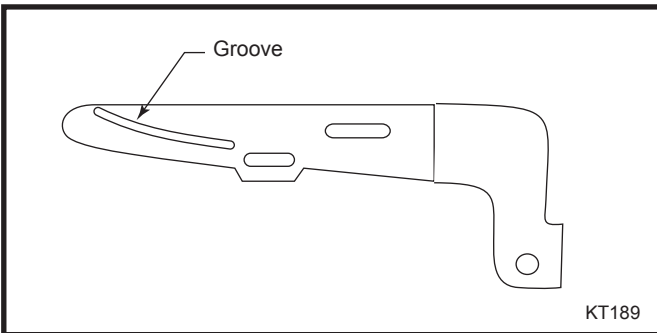

**Fig. 2** Attach brackets to threaded holes in top plate.
2. Screw the flat brackets to the stove. Pass a 1/4"-20 x 1/2" hex-head cap screw up through each bracket and into the threaded hole in the stove's top plate. (Fig. 2) Tighten the screws enough to secure the brackets, but keep them loose enough for the brackets to move slightly.